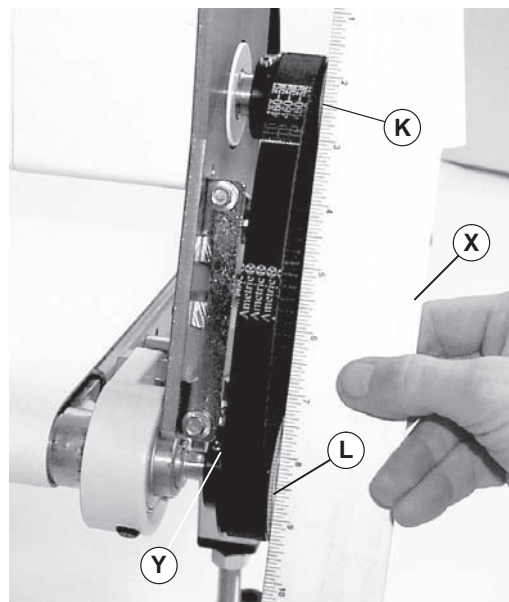

Figure 7
7. Using a straight edge (Figure 7, item X), align driven pulley (L) with drive pulley (K). Tighten driven pulley set screws (Y).